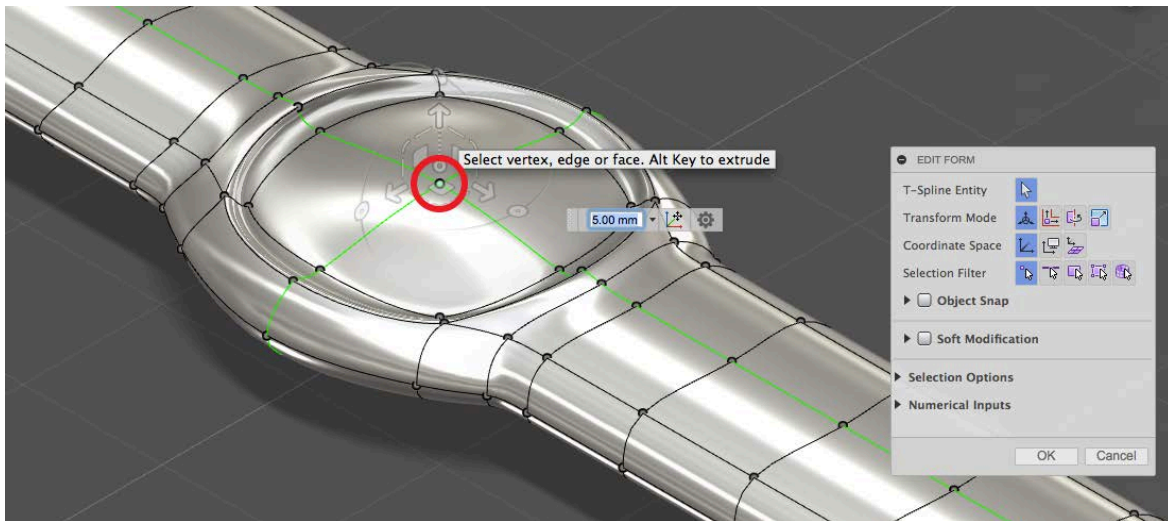

Fig. W08
7. Change Selection filter to “vertex”, select top center point in the case and move up to create crystal dome (Fig. W08).